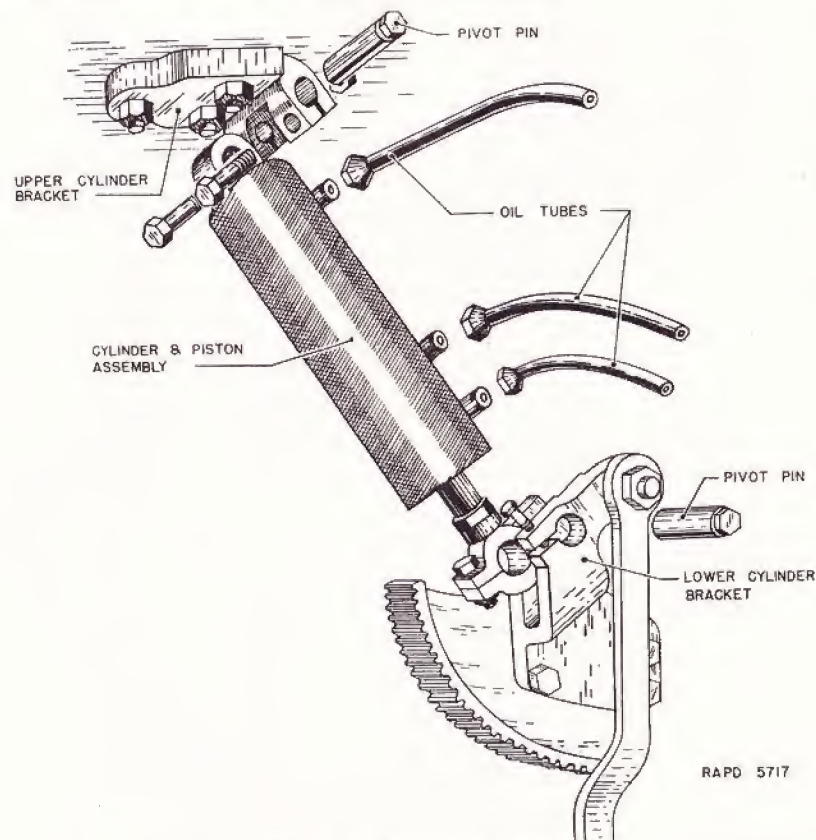
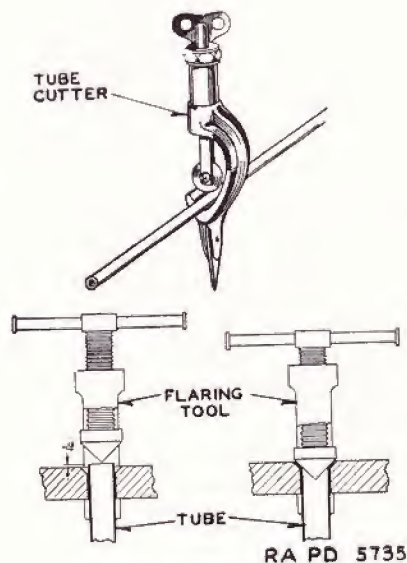

FIGURE 79.—Piston and cylinder.
FIGURE 81.—Tube flaring.
b. Piston and cylinder.—(1) Throw the master toggle switch to the "off" position, disconnecting the power supply to the stabilizer.
(2) Disconnect and remove the oil lines from the cylinder assembly and plug with flareplugs.
(3) Loosen the clamping bolts (fig. 79) and remove the cylinder pivot pin at both ends of the assembly.
(4) Remove the piston and cylinder assembly.
(5) Replace in the reverse order of removal.
(6) Check to see that the piston and cylinder assembly is functioning freely without binding.
c. Repair and replacement of defective oil lines.—(1) Disconnect the defective oil line and catch any oil drainage from the affected part of the system in a container.
(2) Reflare the tubing using a standard flaring tool (fig. 81). The tubing should be cut as close as possible to the flare with a tubing cutter and *not* with a hacksaw.